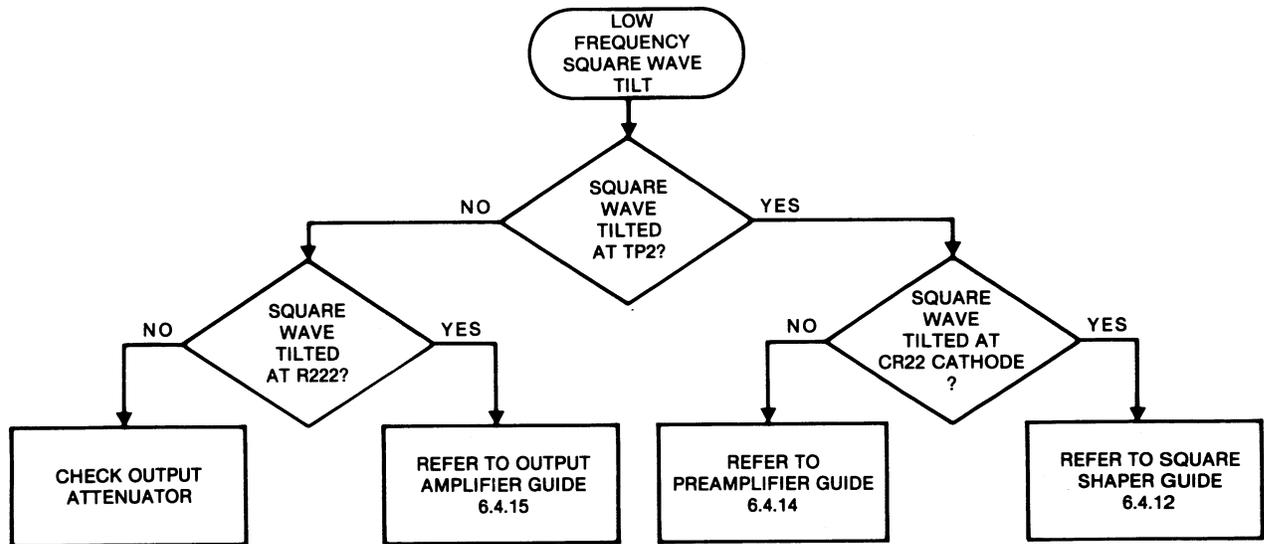

Figure 6-6. Low Frequency Square Wave Troubleshooting
2. If none of the above conditions apply, refer to figure 6-6.